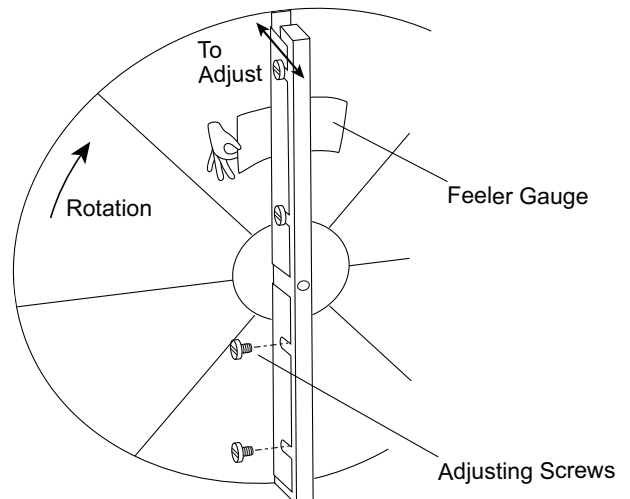

Fig. 55 —Diameter Seal Adjustment
1. Loosen diameter seal adjusting screws and back seals away from the wheel surface. See Fig. 55.